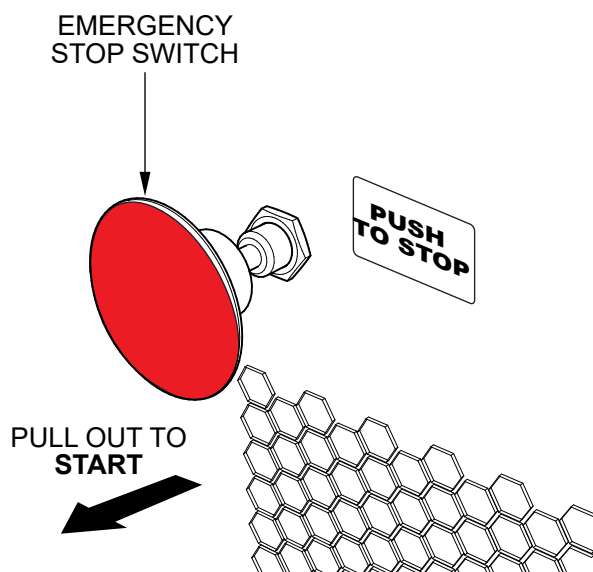

Figure 19. Emergency Stop Switch (Start Position)
7. Locate the emergency stop switch (Figure 19) on the engine cover. Pull this button outward to allow engine starting.